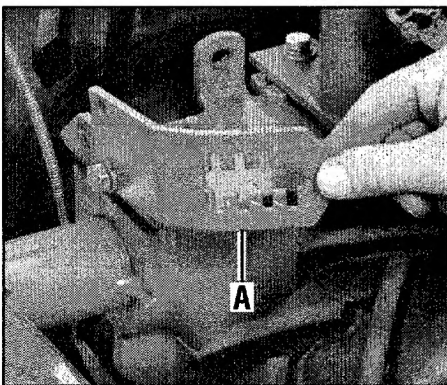

Figure 2-3: Move height bracket aside.
1. On electric start models only, remove one of the screws and lockwashers from the bottom of the curved height adjustment bracket (A, Figure 2-3). Loosen the second screw and swing the bracket to one side.
5. On electric start units, reattach the curved height adjustment bracket (A, Figure 2-3). Tighten screws securely.